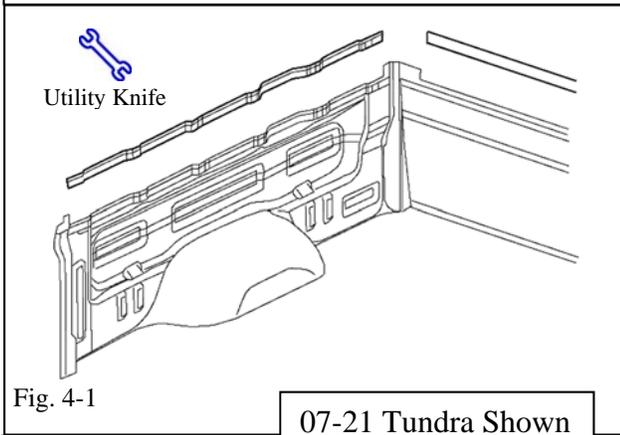
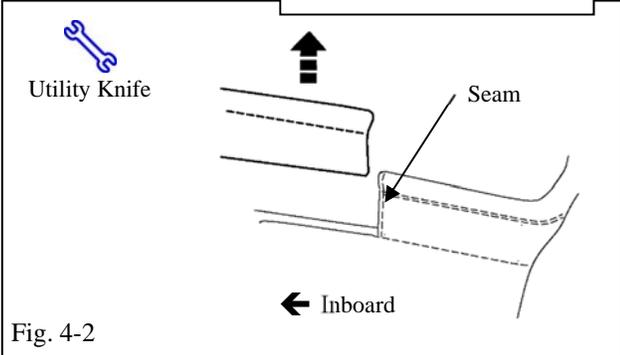

Fig. 4-1
Fig. 4-2
- (c) For 07-21 Toyota Tundra, trim off sections of the sides and/or bulkhead area if a bedrail is present. (Fig. 4-1) These trim lines are located on the back side of the side walls and bulkhead, and will vary depending on application. The BedRug bulkhead has vertical seams sewn on both sides, cut inboard of the seam. (Fig 4-2)